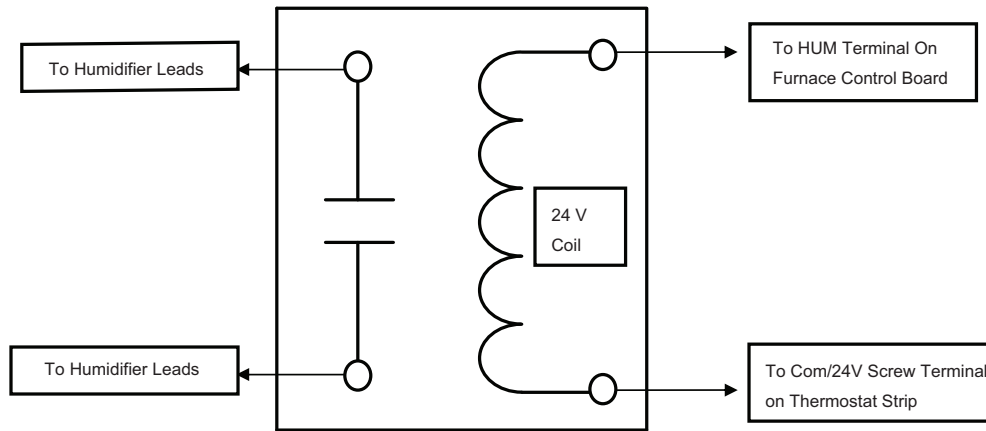

Fig. 40 – Field-supplied Isolation Relay for Humidifiers with Internal Power Supply
- Connect power cord power and neutral leads to furnace power leads, see Fig. 40.
- Connect field power and neutral leads to furnace power leads, see Fig. 40.